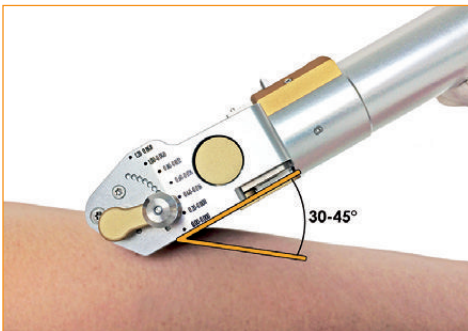

Figure 7. Usage of the Dermatome
- Activate the Motor by pressing the Power Button ("PRESS"). When cutting, push the Cutting Head forward while applying pressure evenly over the tissue at an angle of 30 to 45 degrees. (Figure 7). During cutting the Power Button should be kept pressed.